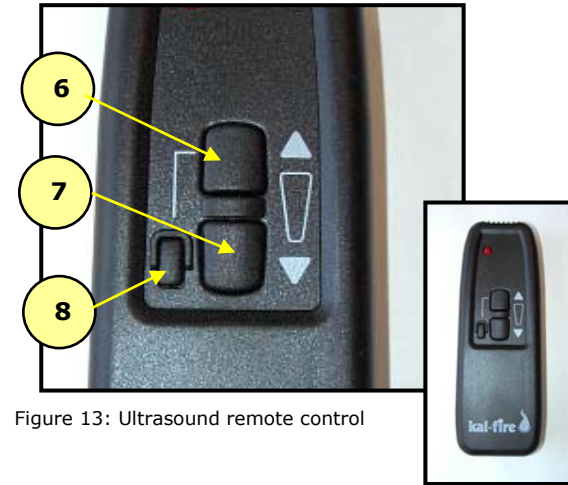

Figure 13: Ultrasound remote control
with the remote control (Figure 13). For higher flames, press in the top knob (6) and the left-hand knob (8) simultaneously. For lower flames, press in the bottom knob (7). The remote control is ultrasound, so you have to point the remote control in the right direction. As soon as the receiver reacts, you will hear a small motor running. If this starts "ticking", you have reached the highest or